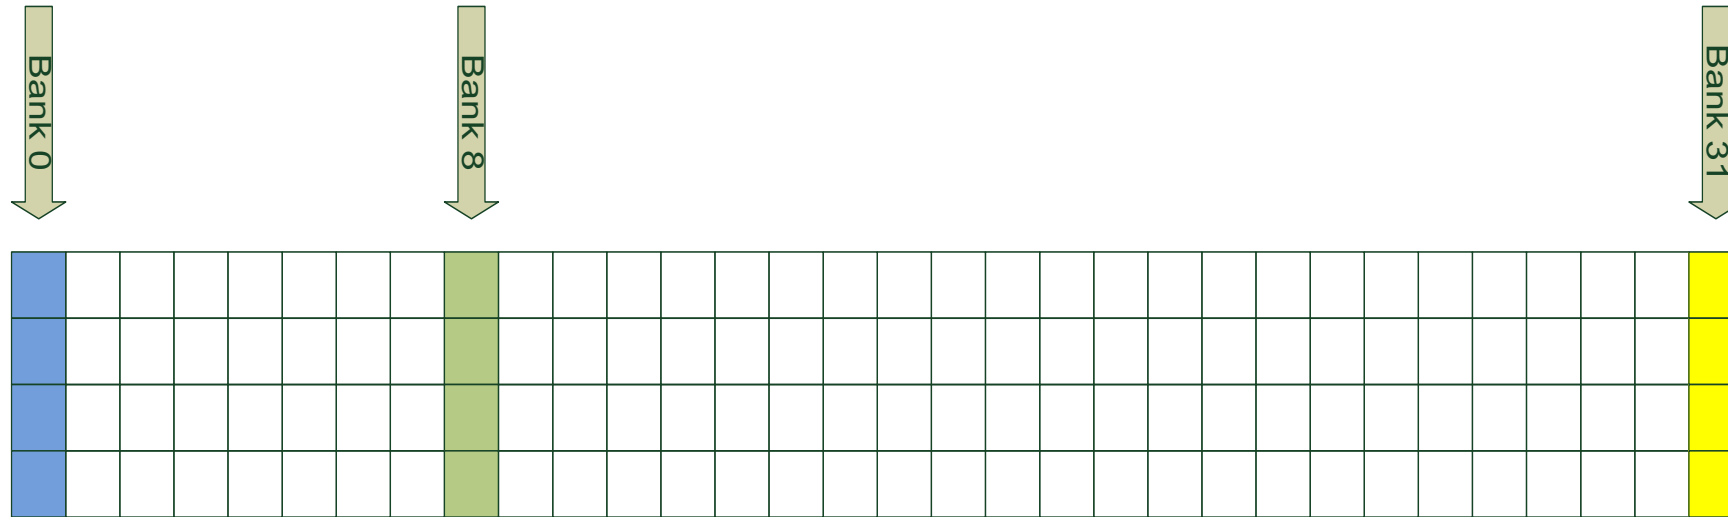

FIGURE 6.6
- By arranging a dataset in rows of 32 elements in the shared memory, and accessing it in columns by thread, you can achieve bank conflict-free access to the memory (Figure 6.6).